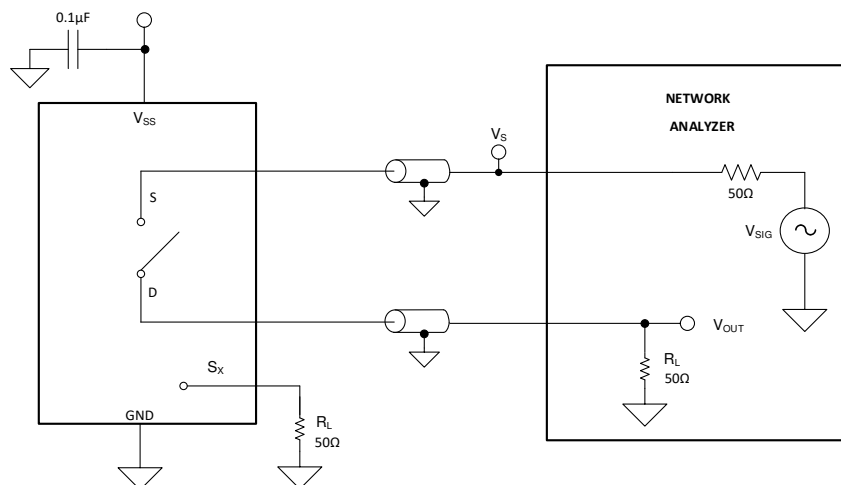

Figure 7-9. Off Isolation Measurement Setup
Off isolation is defined as the ratio of the signal at the drain pin (D) of the device when a signal is applied to the source pin (S_x) of an off-channel. Figure 7-9 shows the setup used to measure, and the equation used to calculate off isolation.